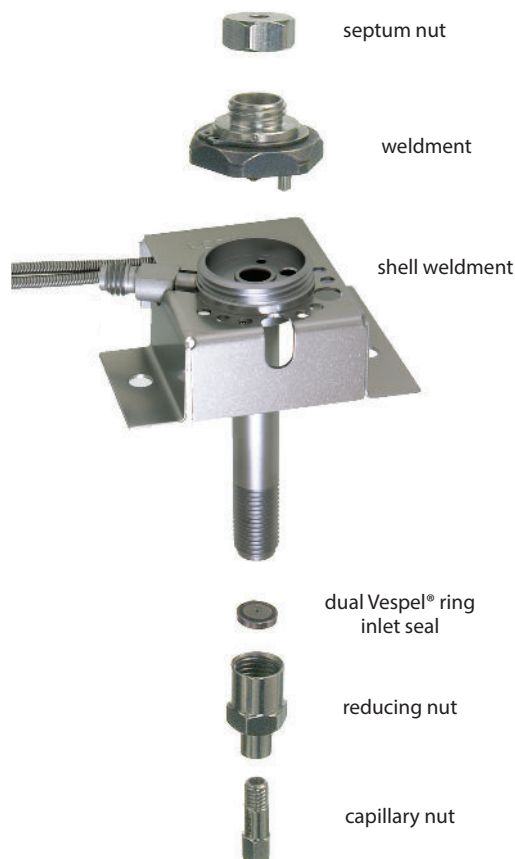

Figure 1
2. Place the shell weldment into the top of the oven. Run the gas lines as shown in Figure 1. Secure with the provided finger-tight nuts and O-rings.